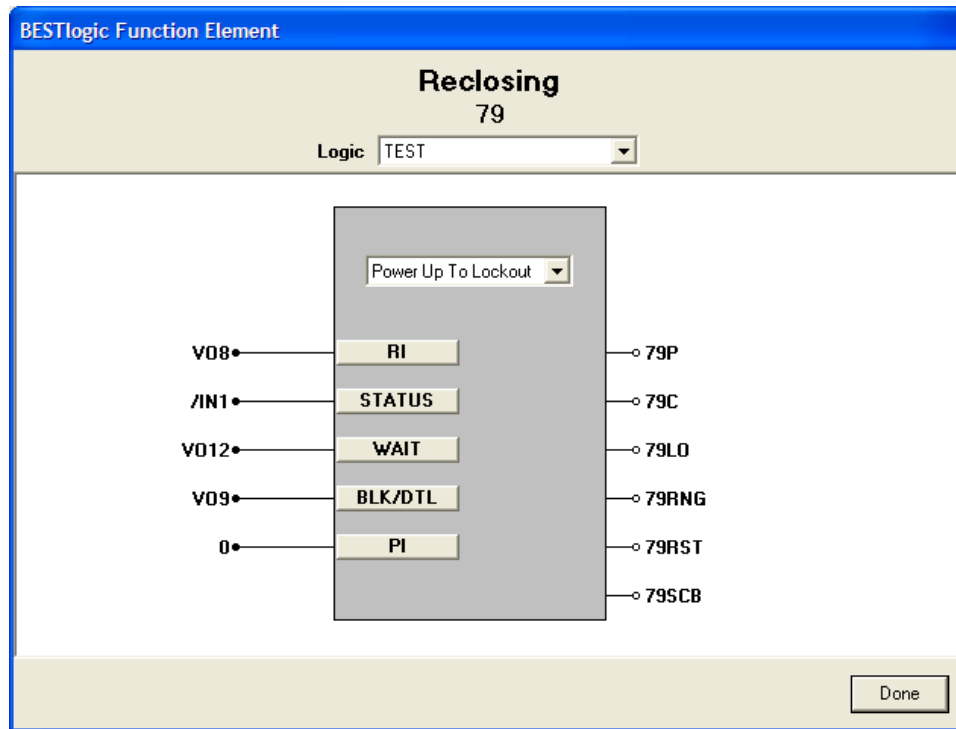

Figure 4-49. BESTlogic Function Element Screen, 79
BESTlogic settings are made from the *BESTlogic Function Element* screen in BESTCOMS. Figure 4-49 illustrates the BESTCOMS screen used to select BESTlogic settings for the reclosing element. To open the *BESTlogic Function Element* screen for Reclosing (79), select *Reclosing* from the Screens pull-down menu. Alternately, settings may be made using the SL-79 ASCII command.